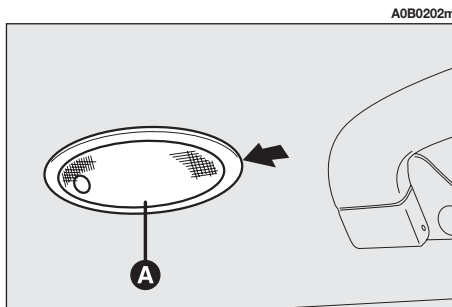

fig. 54
- Remove the rooflight (**A-fig. 54**) levering in the point shown by the arrow.